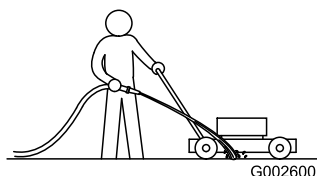

Figure 22
5. With the motor running and the blade engaged, spray a stream of water in front of the right, rear wheel (Figure 22).